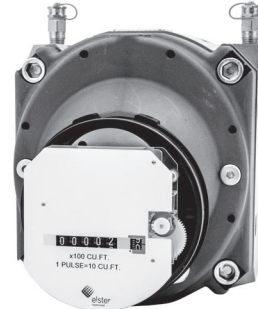

Figure 12. Index masking plate
4. Carefully pull off the index masking plate [Figure 12].